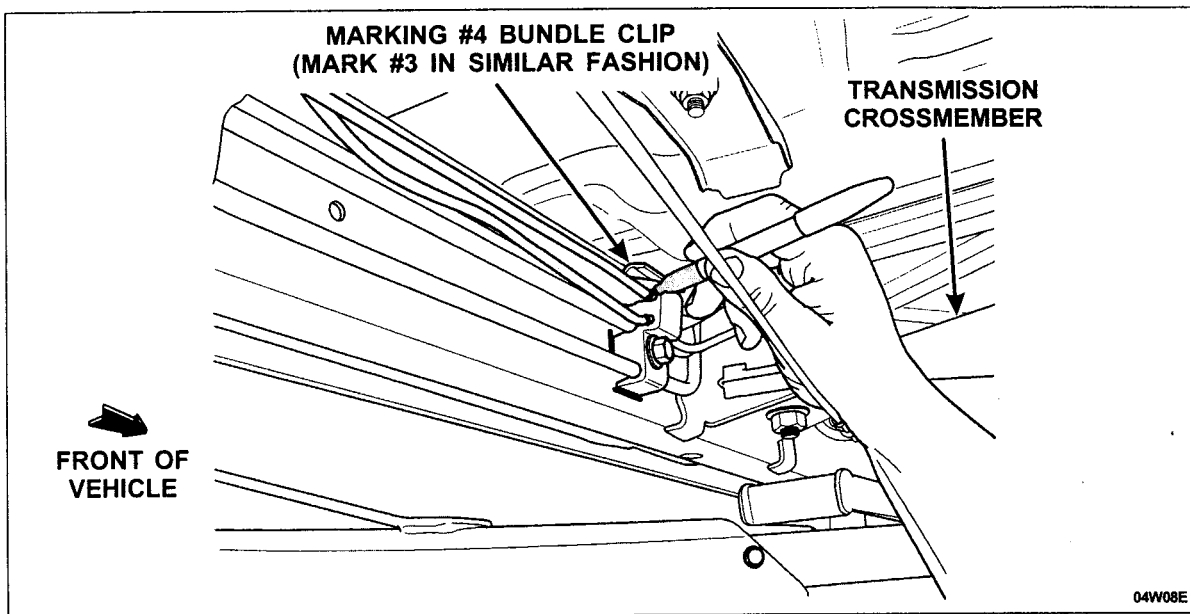

FIGURE 5
1. Mark the location of the #3 and #4 bundle clips (nearest the transmission crossmember) on the frame rail and fuel tubes to assure proper positioning of the **new** clips. See Figure 5.